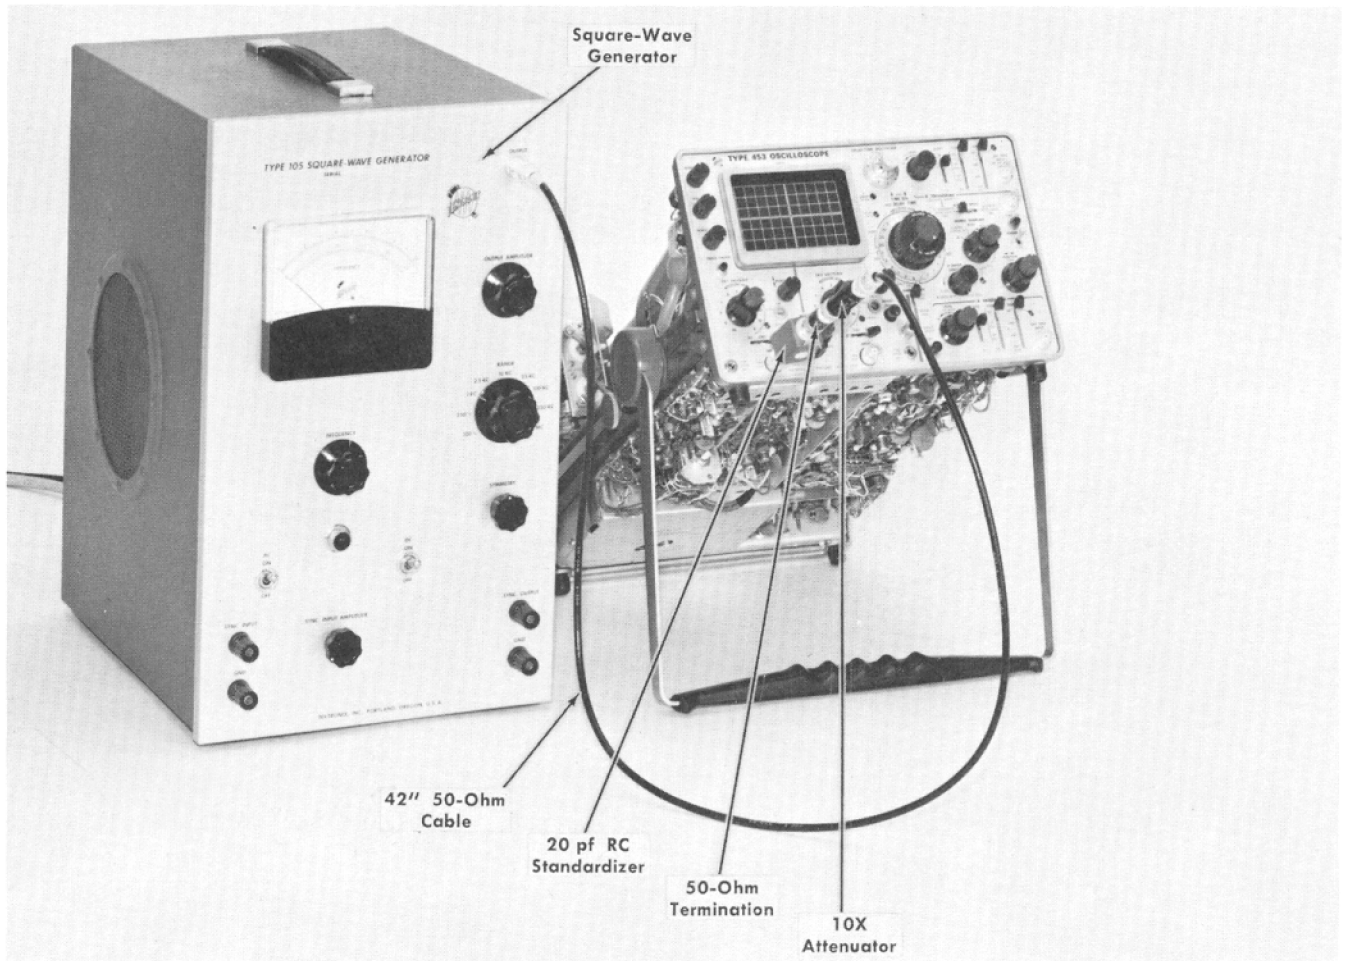

Fig. 6-24. Initial test equipment setup for steps 21 and 22.
- a. Test equipment setup is shown in Fig. 6-24.
a. Test equipment setup is shown in Fig. 6-24.